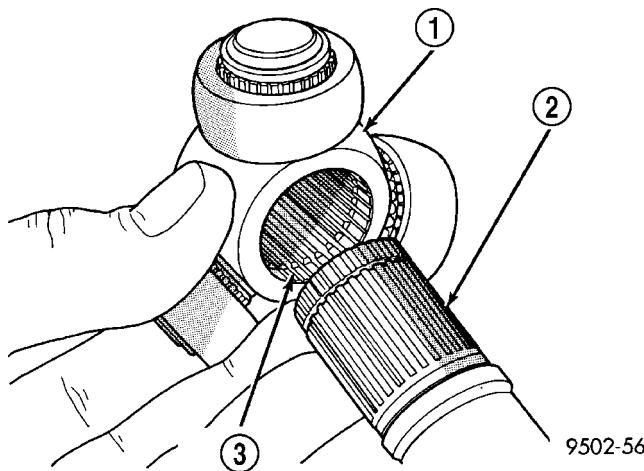
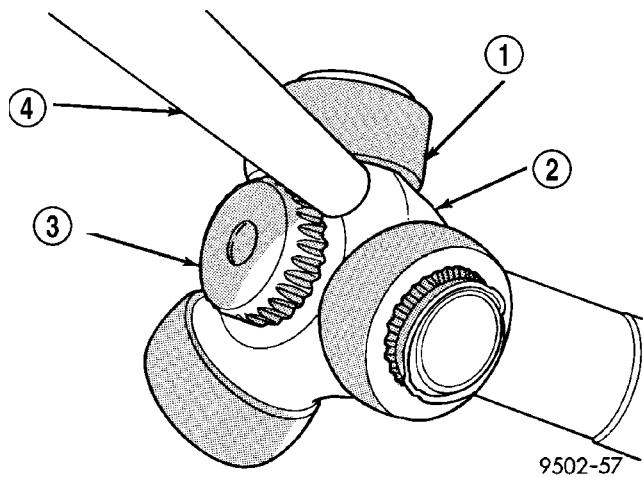

Fig. 33 Spider Assembly Installation on Interconnecting Shaft
Fig. 34 Installing Spider Assembly On Interconnecting Shaft
(2) Install spider assembly onto interconnecting shaft with chamfer on spider assembly toward interconnecting shaft (Fig. 33). Spider assembly must be installed on interconnecting shaft far enough to fully install spider retaining snap ring. If spider assembly will not fully install on interconnecting shaft by hand, it can be installed by tapping the spider body with a brass drift (Fig. 34). **Do not hit the outer tripod bearings in an attempt to install spider assembly on interconnecting shaft.**